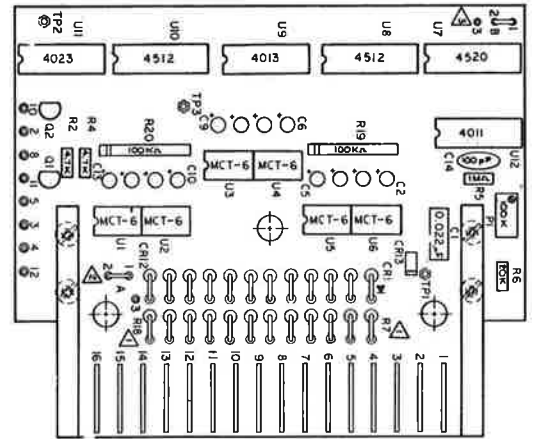

Figure 7. Printed Circuit Board Assembly A2
- (1) Loosen captive retaining screw and remove IST-12 from frame.
- (2) Plug IST-12 into Extender Module
- (3) Install Extender Module in space vacated by IST-12.
- (4) Ground Frequency Counter to terminal 2 of connector on printed circuit board A2 (see figure 7) and connect test probe to TP2.
- (5) Frequency Counter should indicate a frequency at the baud rate, if not proceed to step 6).
- (6) Rotate adjustment screw on potentiometer A2VR1 to obtain desired indication on the Frequency Counter.
- (7) Disconnect Frequency Counter from test point.
- (8) Unplug IST-12 from Extender Module and remove Extender Module from frame.
5.14 Eight-Point Scan Option. The IST-12 can be modified to operate as an eight-point scanner. To accomplish this modification, cut the etch on the printed circuit board A2 (Figure 7) between B-1 and B-2 and install a jumper from B-2 to B-3. The IST-12 will now monitor points 1 through 8 connected to terminal block connections 5 through 12. Points 9 through 12 will not be transmitted.
- (1) Cut etch on printed circuit board A2 (Figure 7) between A-1 and A-2.
- (2) Install a jumper from A-1 to A-3.
within the 48 to 130 Volt range or a nominal 5 Volt. To accomplish this modification to accept keying voltages in the 48 to 120 Volt range or nominal 5 volts, replace resistors R7 through R18 on printed circuit board A2 in accordance with parts list of Figure 7.
7.3 Printed Circuit Board Assembly A2. (See Figure 7)